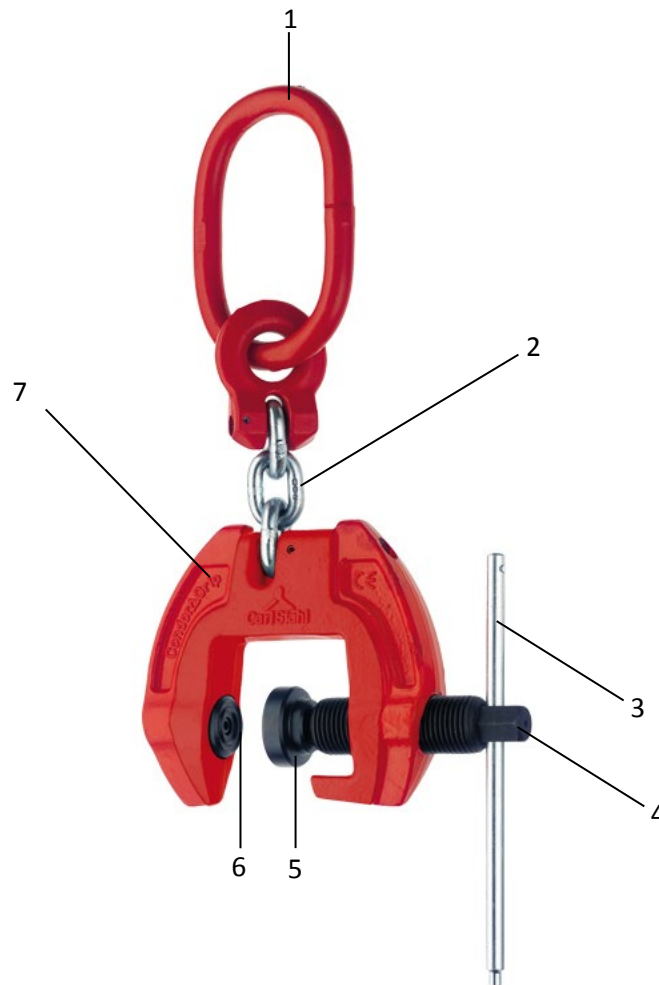

Fig. 2: Sheet metal clamp
- ▶ Observe the permissible angle of inclination of 90° (see Fig. 2).
- ▶ Make sure that the load does not lose contact with the support during the turning process and that it slides slowly into the end position (see Fig. 2).
5. Pull the load upright by 90°, sliding slowly and carefully (see Fig. 2).